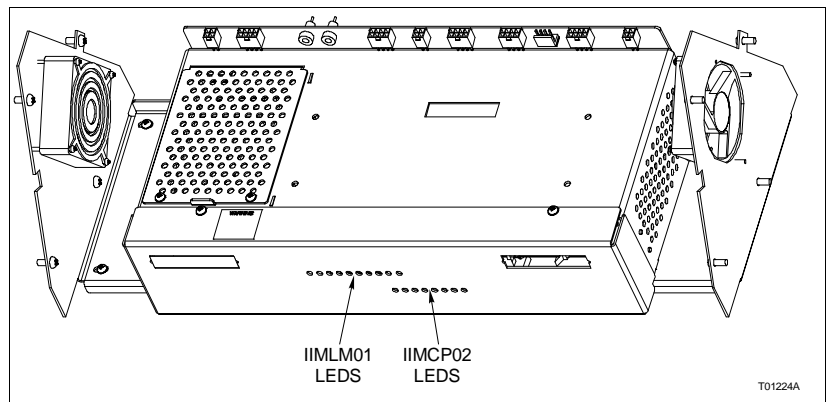

Figure PR44-1. Diagnostic LEDs
- 1. The diagnostic LEDs are viewable through holes in the NIU front cover (Fig. PR44-1).